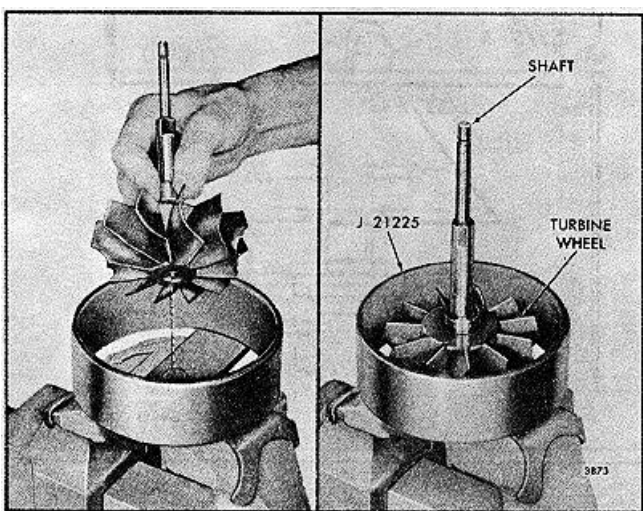
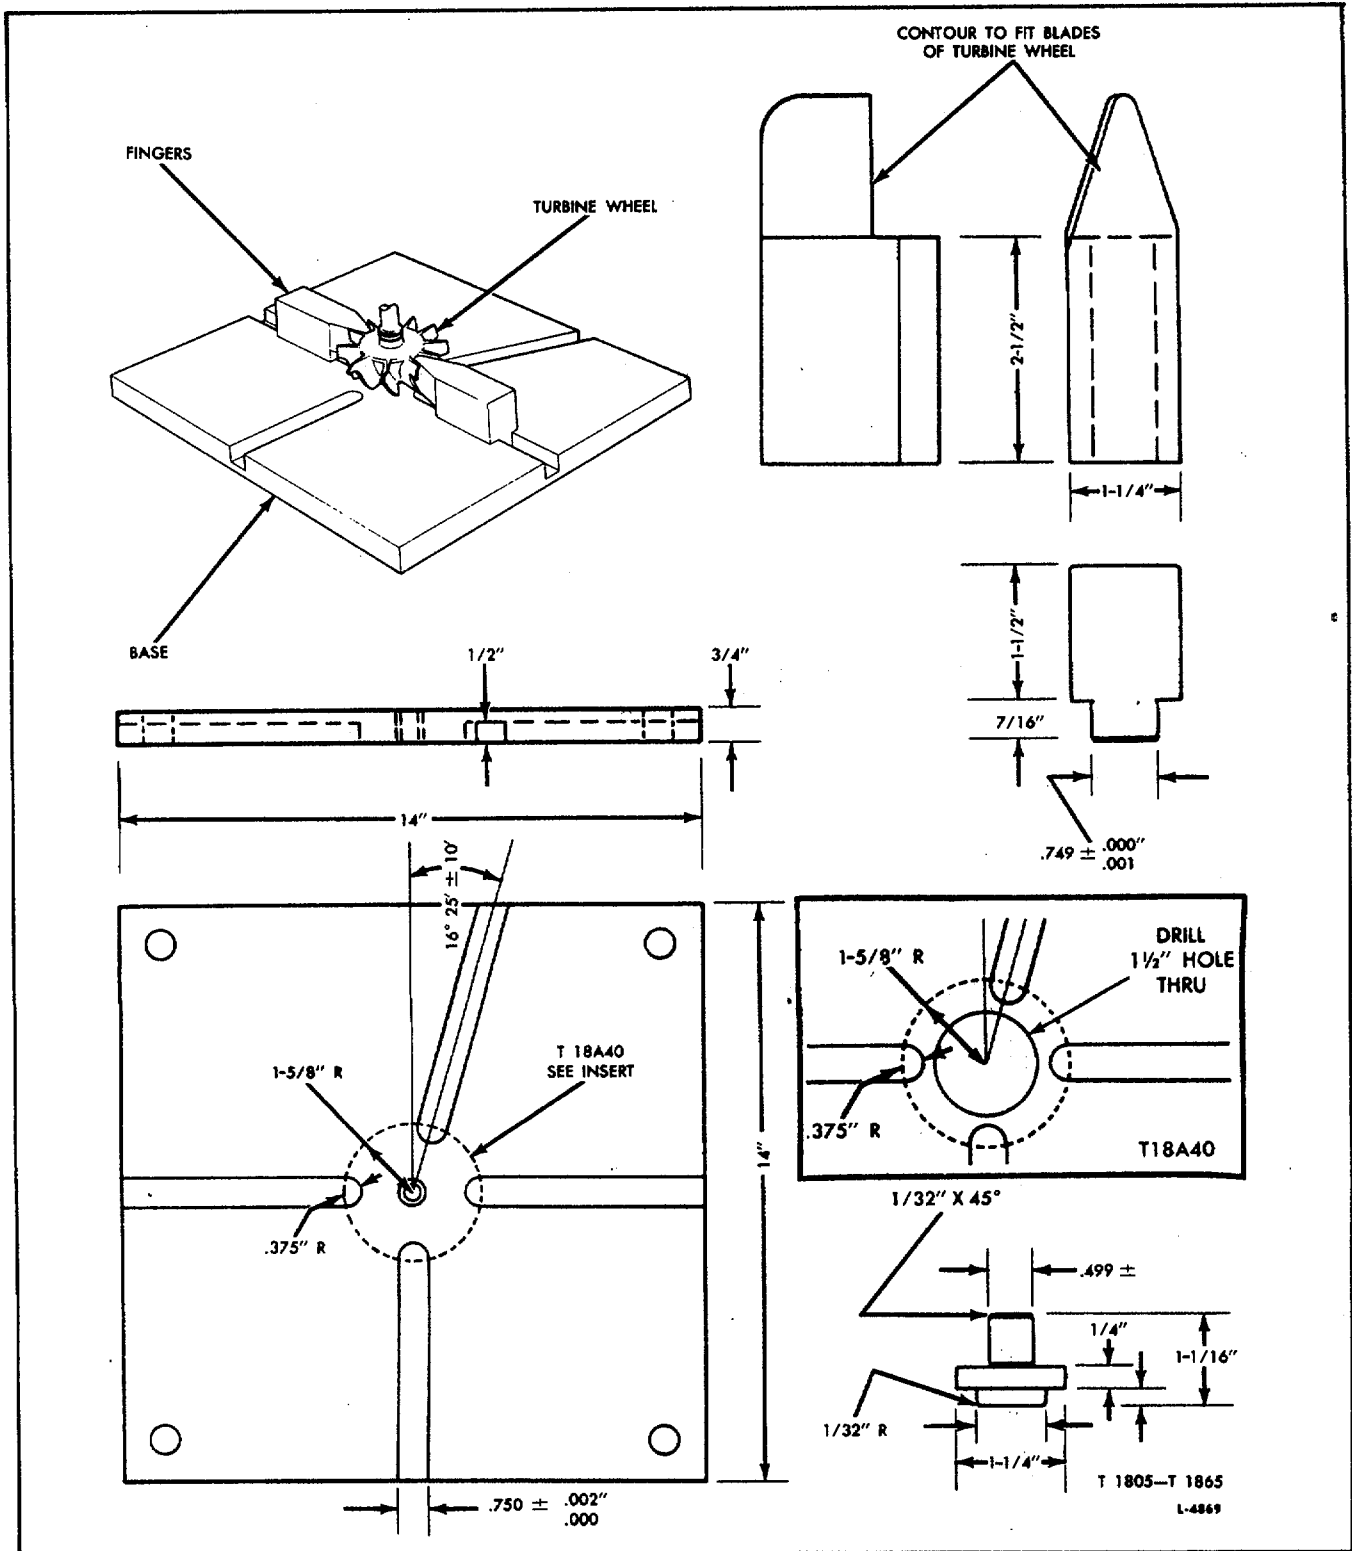

FIG. 23 - Installing Shaft Assembly in Holding Fixture
FIG. 24 - Turbocharger Holding Fixture
2. Clamp the shaft holding fixture J 21225 in a bench vise. Place the shaft assembly in the holding fixture with the hexagon countersunk hole in the turbine wheel over the protruding hexagon head in the holding fixture as shown in Fig. 23. If required, use a suitable holding fixture (Fig. 24).